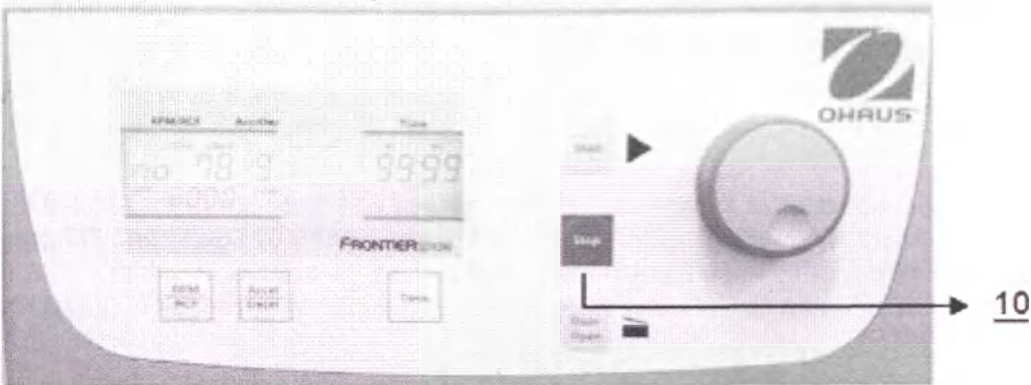

Fig. 23
The centrifuge can be stopped any time using the key **Stop** (10) (see Fig. 23). After pressing the key, the centrifuge gets decelerated with the preset intensity until complete stop.